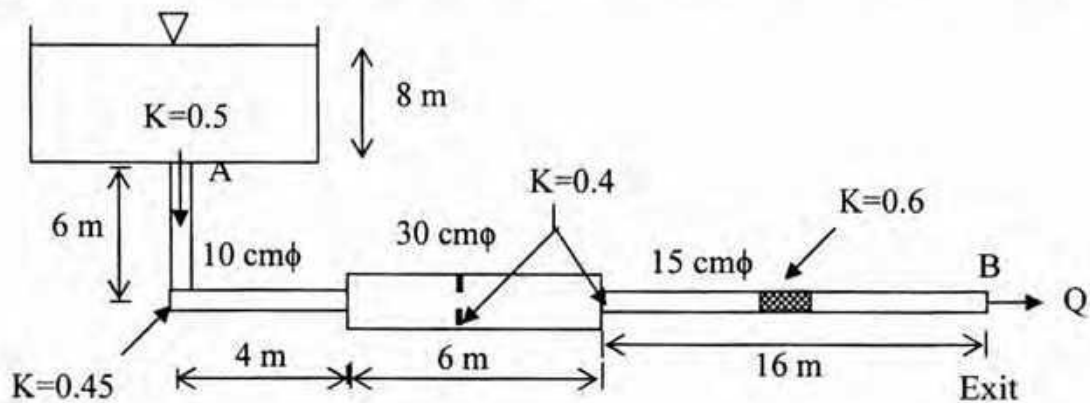

Figure 8
- c. Find Q in the pipe AB shown in Figure 8. Take  $f=0.04$  and assume reasonable values for 13